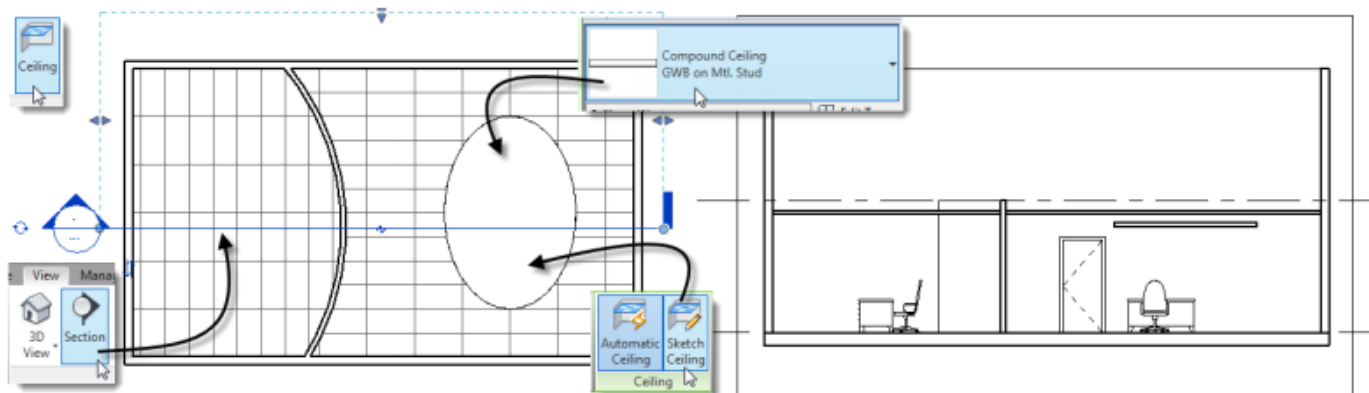

FIGURE 5 – ADD A SKETCHED CEILING
18. Right-click and choose: **Go To View** (see Figure 5).